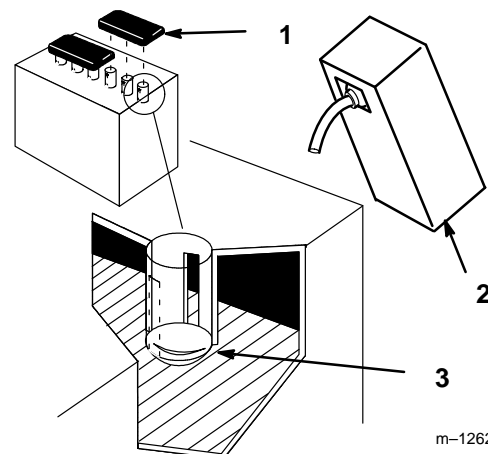

Figure 2
2. Remove filler caps from the battery. Slowly pour electrolyte into each cell until the electrolyte level is up to the lower part of the tube (Fig. 2).
- Slowly pour electrolyte into each cell until the level is once again up to the "UPPER" line on the battery case (Fig. 2) and install covers.